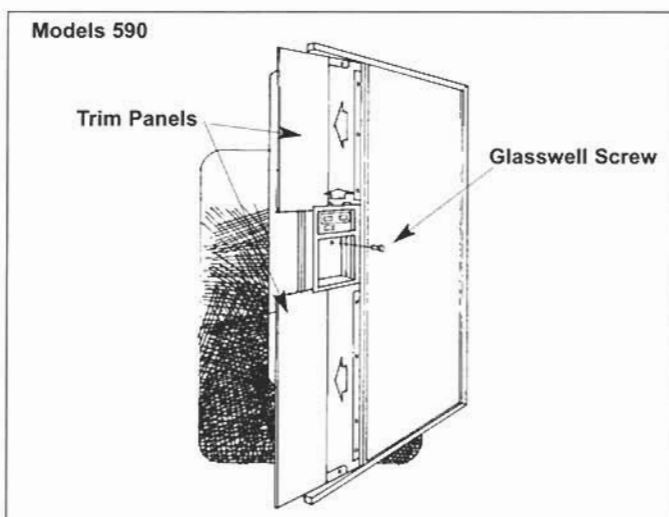

Figure 2-18. Door Trim Panels
3. Remove the trim panel(s) by sliding them out of the doors (Figure 2-18).
3. **Refrigerator Door Assy. Only.** Remove the water and ice glasswell by removing the glasswell screw (Figure 2-18). Slide the glasswell up and pull out.
2. Remove the glasswell screw. Slide the glasswell assy. up and out (Figure 2-18).